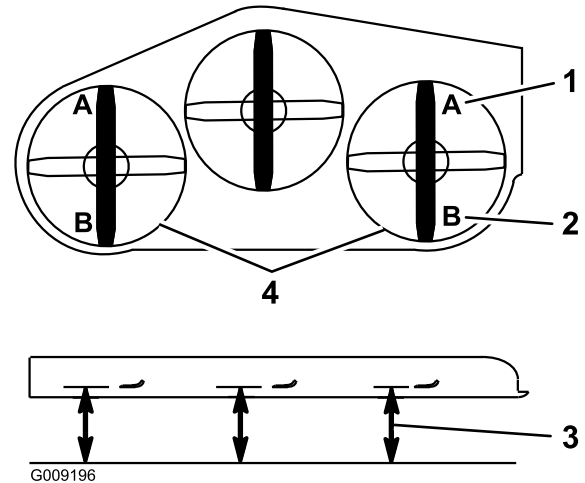

Figure 72
9. On both sides of the deck, measure from the level surface to the front tip of the blade (Position A). The measurement should read 3 inches (7.6 mm) (Figure 72).
15. On both sides of the deck, measure from the level surface to the back tip of the blade (Position B). The measurement should read 3 1/4 inches (8.3 cm) (Figure 72).